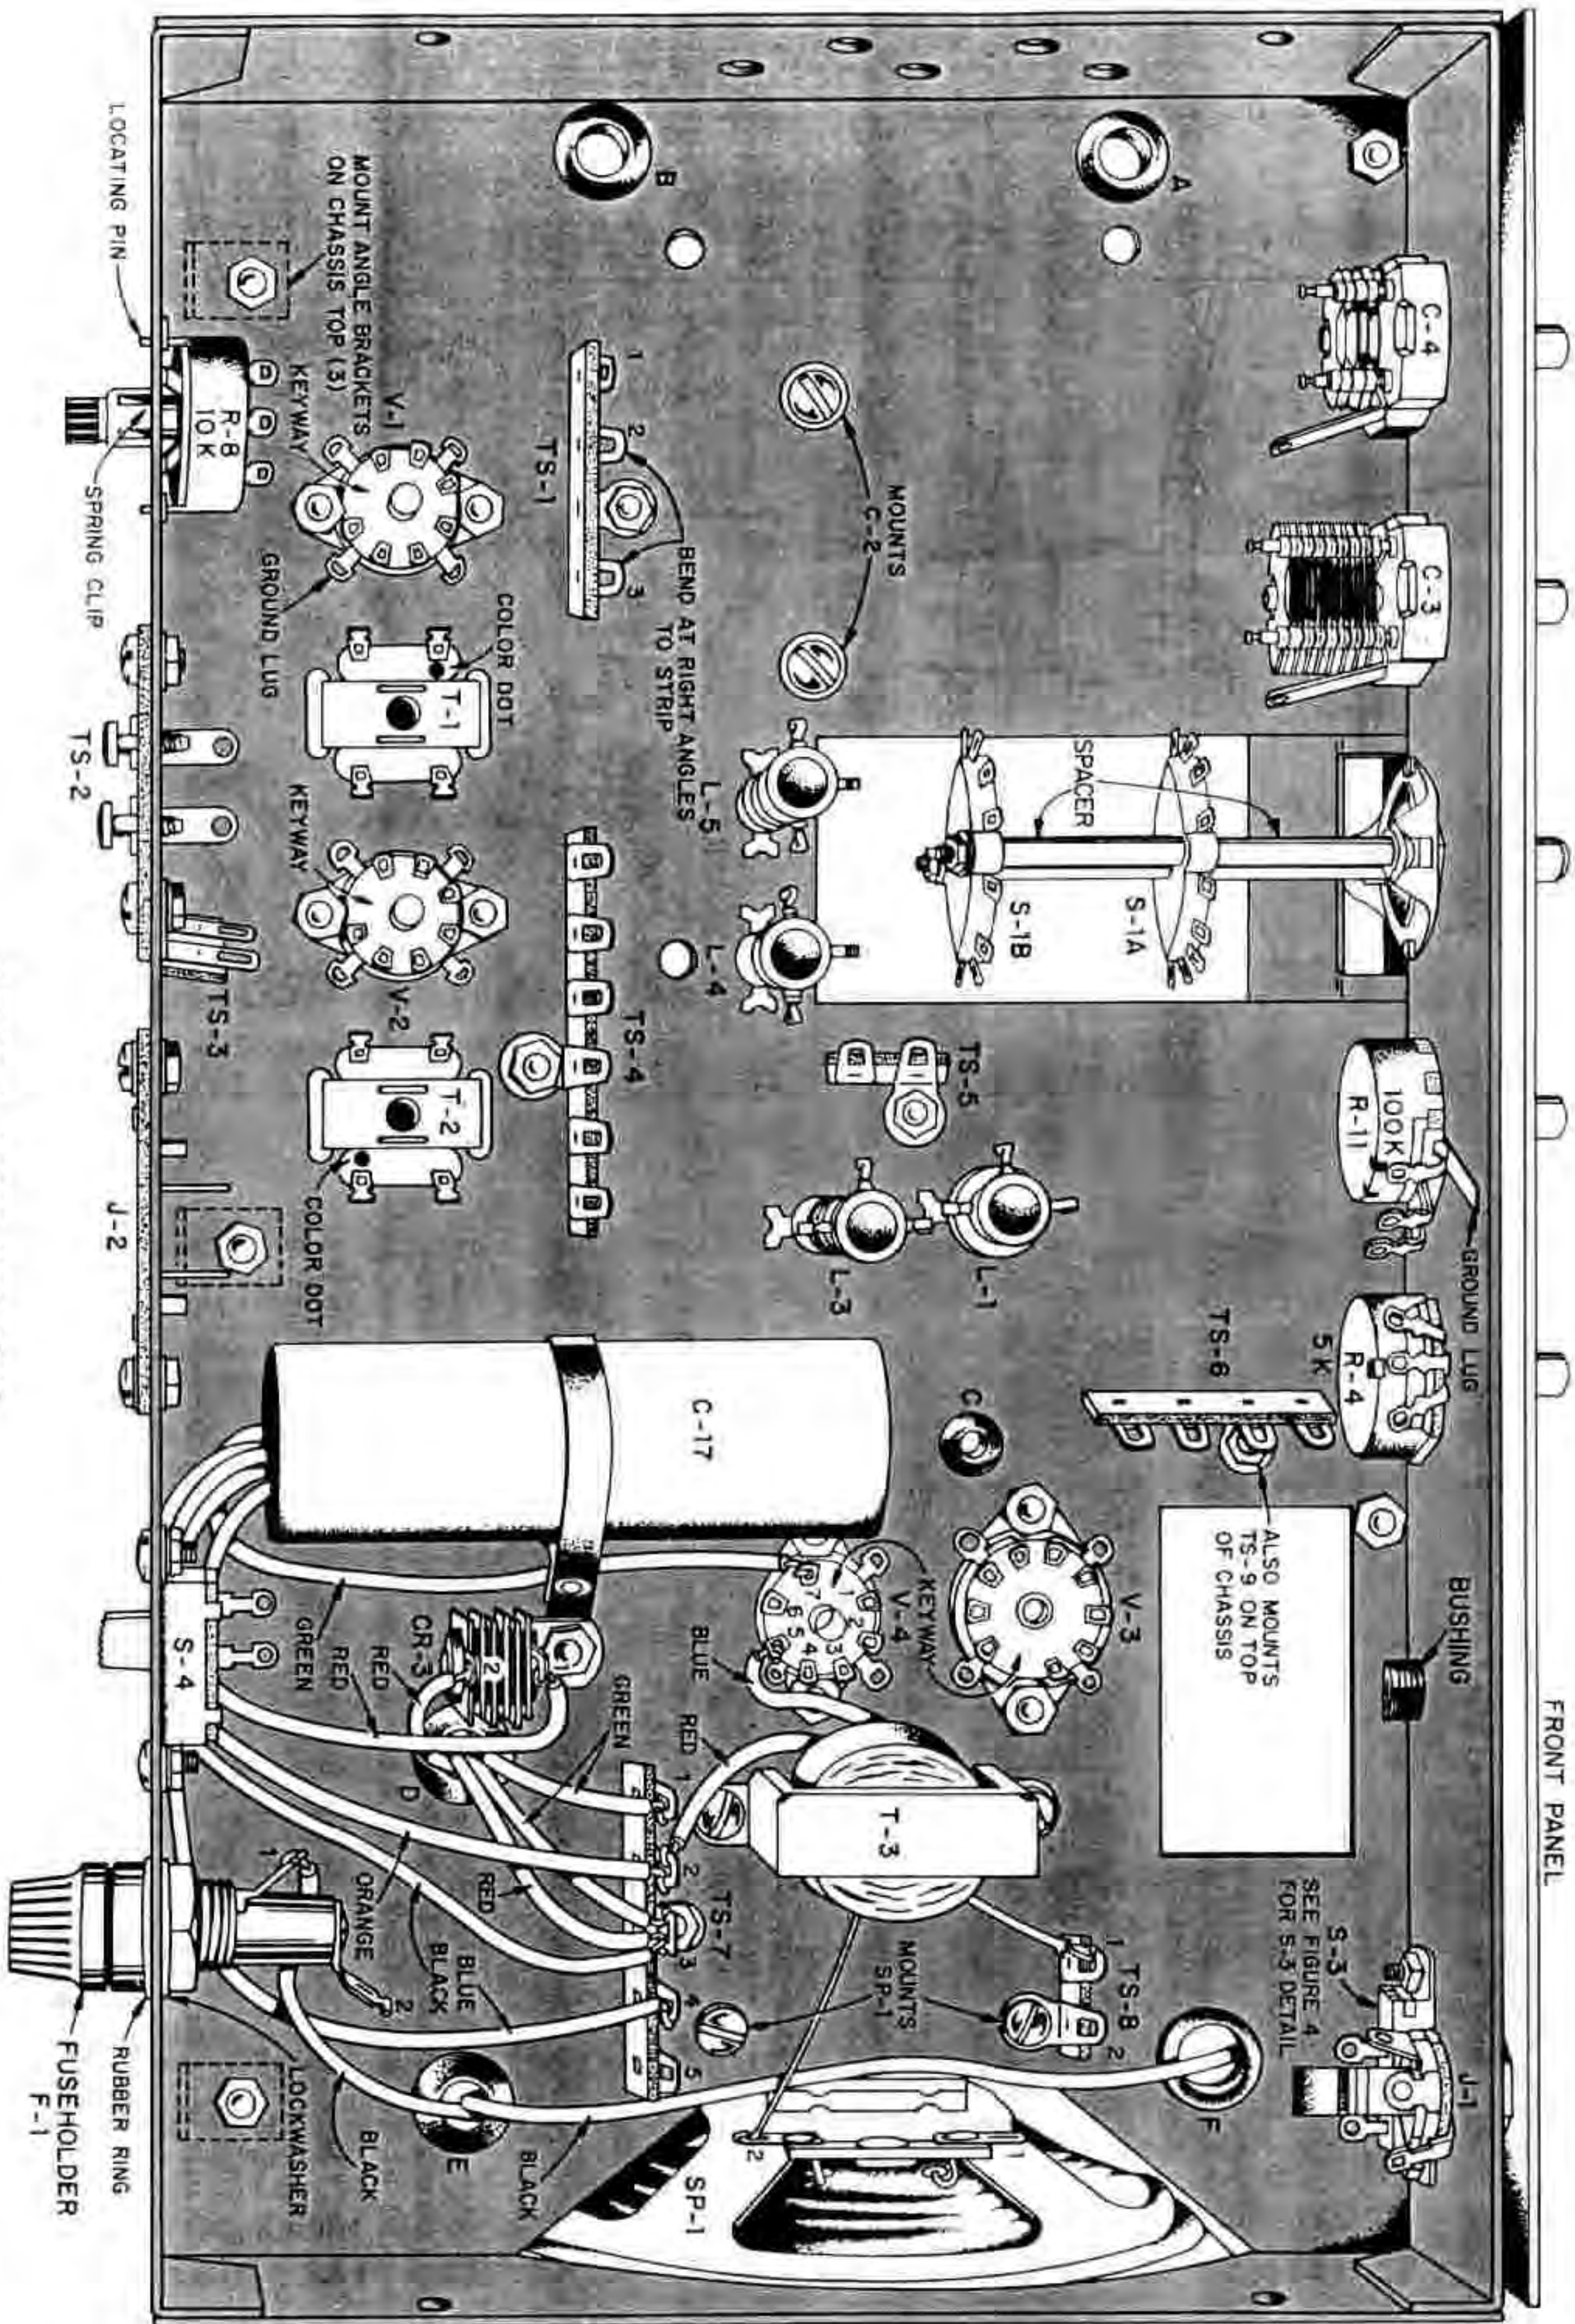

FIGURE 1. PARTS MOUNTING
- Long black lead. Position the wire as shown in Figure 1 and push the end of the wire through grommet F; it will be connected later.